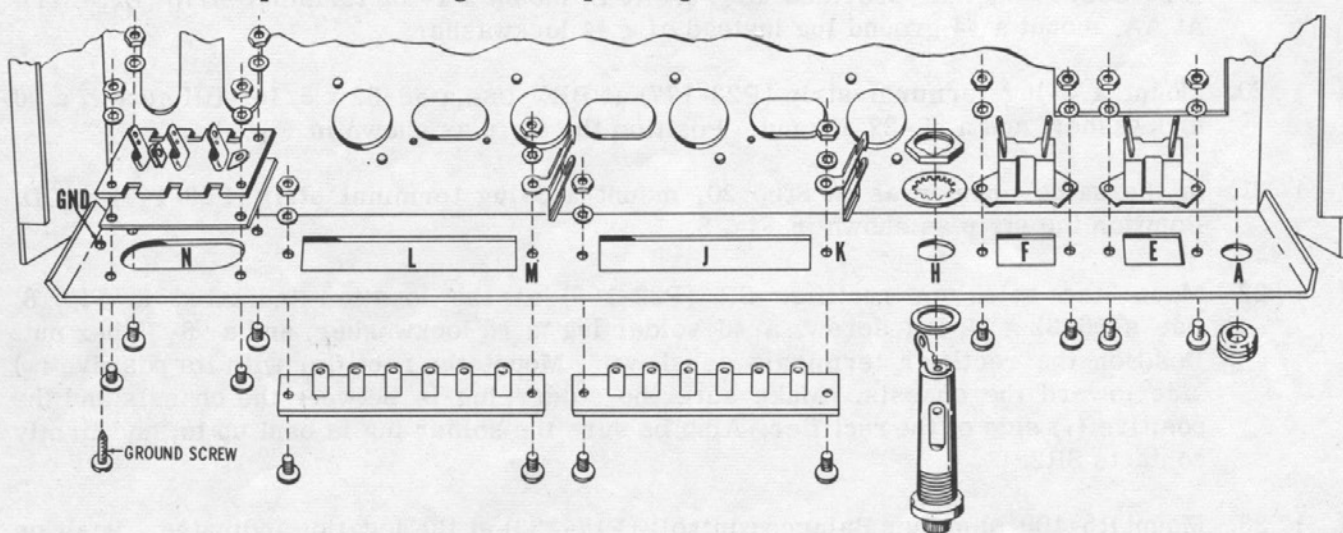

Fig. 7.
Refer to Figs. 7 Through 10
- () 1. See Fig. 7 and insert a 3/8" rubber grommet into hole A.
- () 9. A triple phono jack strip (P20-203-12) is now mounted. Before mounting it, place a 3-hole Bakelite insulating plate (P20-203-22) over the sockets, between the rear apron and the phono jack strip. From the inside of the rear apron, mount the triple phono jack strip at cutout N. Position the strip as shown in Figs. 7 and 8. Use four #4-40 x 5/16" BH screws, four #4 lockwashers, and four #4-40 hex nuts. Note that when this strip is correctly positioned, the double ground lugs are on the left side of the strip when viewing the strip in Fig. 7.
- () 12. Mount a #6 x 3/8" self-tapping screw in the hole at location GND. See Figs. 7 and 10.